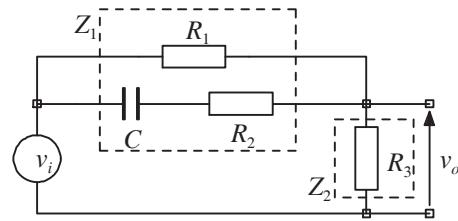

Figure 1
The transfer function will often be a suitably manipulated potential divider relationship. In order to end up with a result that is easily interpretable, it is desirable to express the transfer function in a particular way. An outline of the steps necessary is as follows with the circuit of figure 1 used as an example.
- (i) Work out the impedances Z_1 and Z_2 remembering to keep $(j\omega)$ together. For figure 1 and using s for $j\omega$ they are
- (ii) Write down the potential division relationship. For the circuit of figure 1 it is
- (iii) Manipulate the potential division relationship to end up with a ratio of two polynomials in s . Note that in general the numerator polynomial may be completely real, completely imaginary or complex; the denominator will be complex with a real and an s term. For the circuit of figure 1,
- (iv) Take out factors to force the real parts of the numerator and denominator to unity. This will often result in having to divide the s term in the denominator by the real part of the denominator. The numerator often naturally occurs in the right form (as in this example). For the circuit of figure 1 R_3 is obviously a factor in the numerator. $(R_1 + R_3)$ is the factor that must be removed from the denominator to give a denominator real part of unity. These two factors form a dimensionless frequency independent ratio that multiplies the complex part of the expression.
Having obtained the transfer function and manipulated it so that it has the shape of a standard form, the next step is to compare the transfer function with the standard form of the same type. Again, using the circuit of figure 1 as an example and comparing (3.5) with (2.1), (2.2) and (2.3), it is clear that (3.5) is of the form of (2.3) - the hybrid form - and by comparison of coefficients,